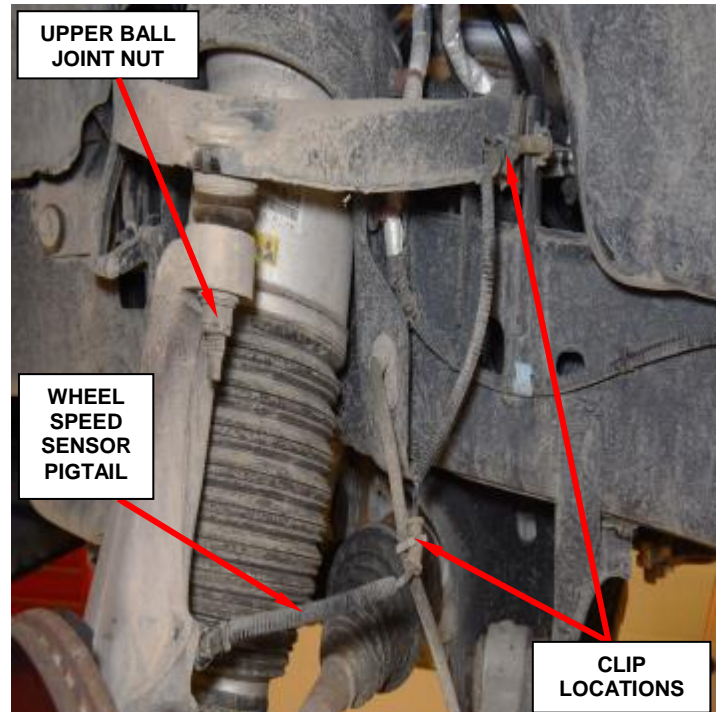

Figure 3 – Wheel Speed Sensor
- d. Release the left side wheel speed sensor wiring pigtail from the clips (Figure 3).
- h. Remove and **discard** the left side upper ball joint nut. Separate the ball joint from the knuckle with Ball Joint Remover 9360 (Figure 3).
- b. Install the **NEW** upper and lower ball joint nuts (Figures 3, 4 and 5).
15. Clip the wheel speed sensor wiring pigtail to the retaining clips (Figure 3).